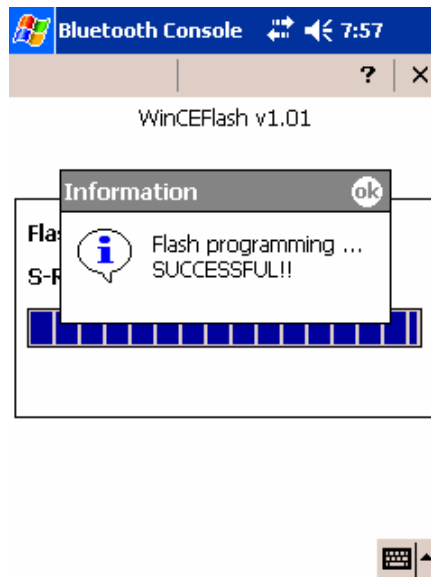

Figure 18. WinCEFlash Done Message
- j. Wait for the *Flash programming SUCCESSFUL* message (see Figure 18). Click **OK** to continue.